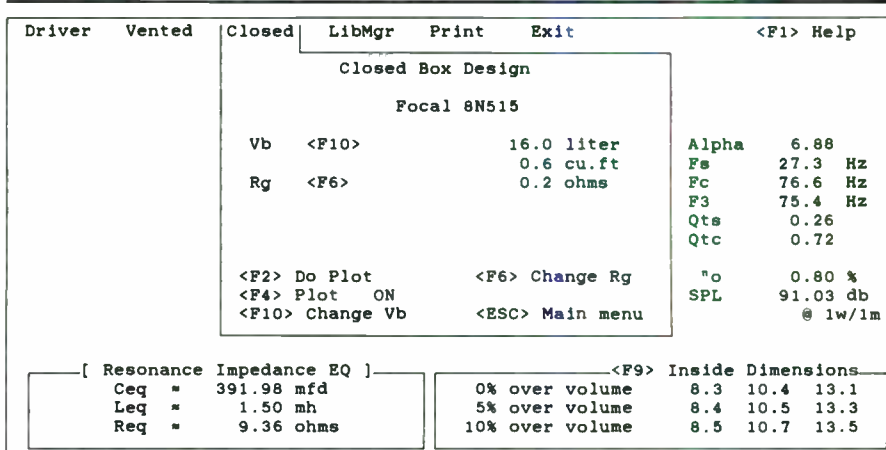

FIGURE 2: Typical closed-box design screen display.
With the driver data loaded, select either design type: closed-box (CB) or vented-box (VB). Selecting **Closed** will result in a screen similar to Fig. 2. The initial design is for a CB with a Q_{TC} of about 0.7. You can change this design using selections found in box volume.
the system. This plotted graph will contain either a VB design, a CB design, or both, depending on the plot toggle status that is set on each design screen. In Figs. 2 and 3, plot is ON, so pressing <F2> from either screen will produce a display similar to Fig. 4 showing both systems.